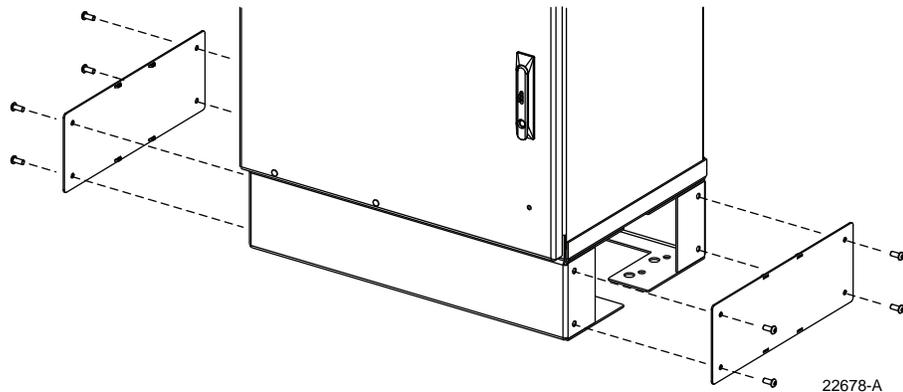

Figure 12. Removing Side Access Covers From Ground Spacer/Riser
1. Use a 3/16-inch hex-key to remove the screws that secure the access covers to the left and right sides of the cabinet ground spacer/riser as shown in Figure 12.